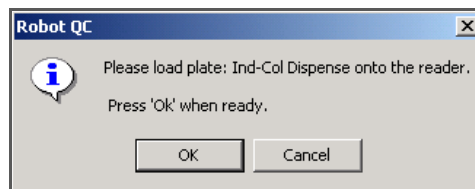

Figure 92 Load Ind-Col Dispense Prompt
- When prompted, load the Ind-Col Dispense plate into the spectrofluorometer (Figure 92). Click **OK**.